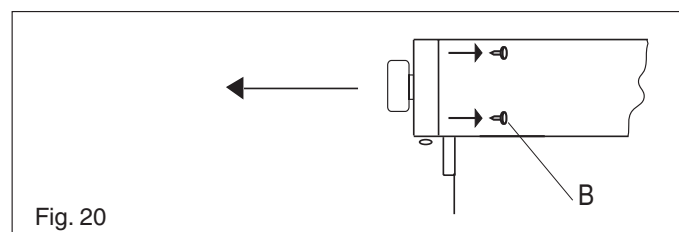

Fig. 20
- To disassemble the control panel, unscrew the 4 internal screws (B) fixing the control panel to the oven face (fig. 20).